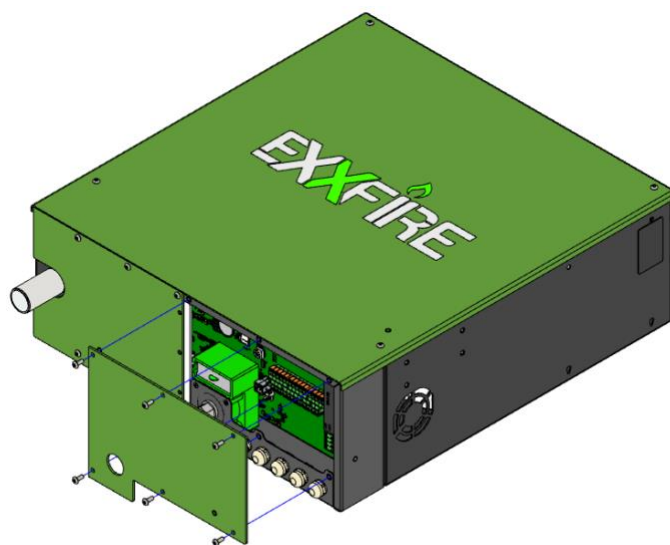

Figure 45 Remove electronics cover panel
- Access to connection terminals is made via the rear access panel (right-side panel at the rear side), which can be removed by unscrewing the 6 screws, and lifting out the aluminum cover (see Figure 45 below).